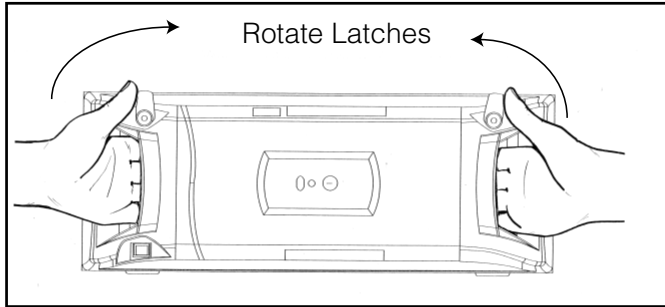

Figure 9
Step 1: To remove the door, hold handles and rotate latches as shown in Figure 9.